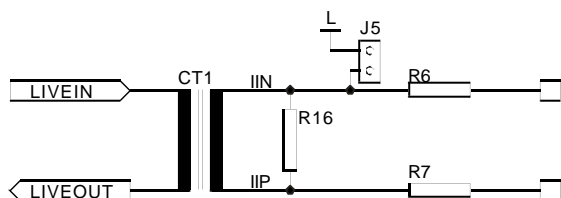

Figure5:Currentinputconfiguration
**CURRENT SENSOR INPUT RESISTORS FIGURE 5 (USING A CURRENT TRANSFORMER)**